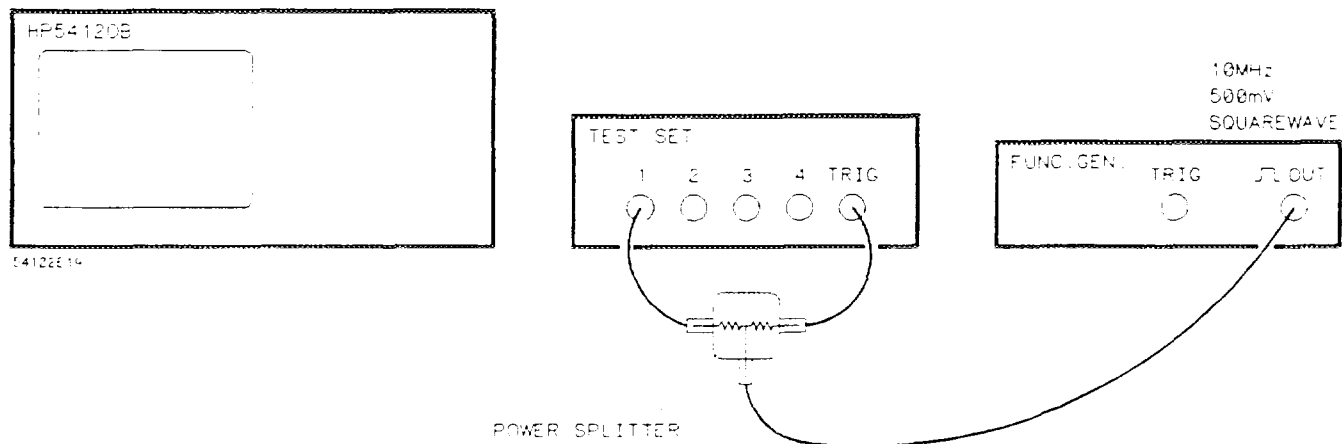

Figure 8-2. Equipment Configuration.
- Connect the output of the function generator to the channel 1 and trigger inputs of the HP 54121A test set with the power splitter. See figure 8-2. For demonstration purposes, a power splitter is not required if your pulse generator has a separate trigger output to connect to the HP 54121T's trigger input.
- Connect the output of the function generator to the channel 1 and trigger inputs of the HP 54121A test set with the power splitter. (See figure 8-2.)